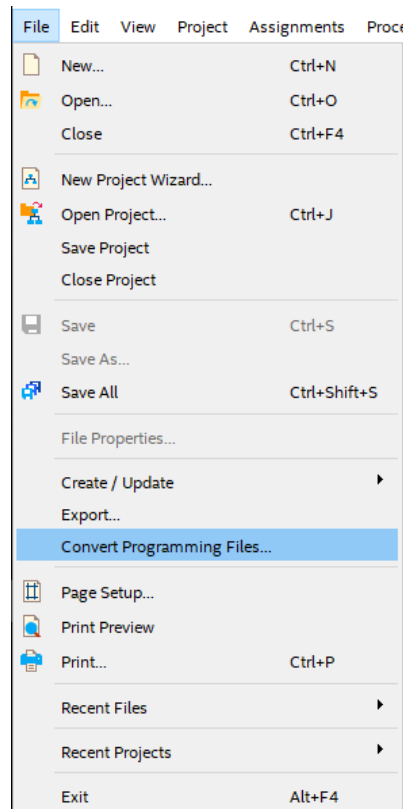

Figure 46 : Convet Programming Files Menu
1. Open Quartus Prime. Go to File -> Convert Programming Files as shown in the Figure 46.